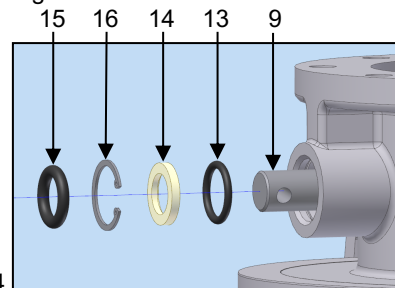

Fig. 14
10. Remove dust seal (15) with picking tool. Discard dust seal. Remove retaining ring (16) with retaining ring pliers. (See Fig. 14)
36. Remove dust seal (15) with picking tool. Discard dust seal. Lubricate New Dust Seal (15) with Parker Super Lube (or equivalent) before replacing. (See Fig. 14)
41. See Fig. 14: Lubricate O-Ring (13) with Parker Super Lube (or equivalent) and assemble in reverse order, use New Retaining Ring (16) before assembling Dust Seal (15). Lubricate dust seal before installation. Return to step 8.